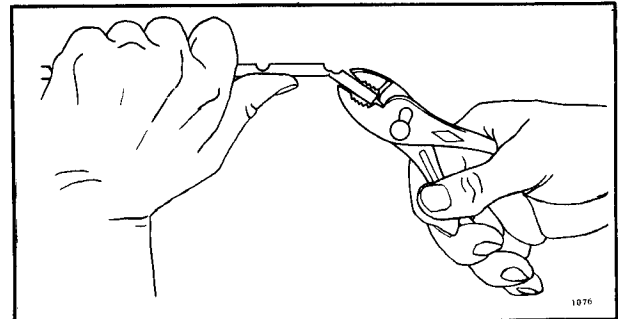

FIG. 4—SHORTENING THE CAPILLARY HOLDER.
3. Break off the capillary holder to the desired length (Fig. 4).